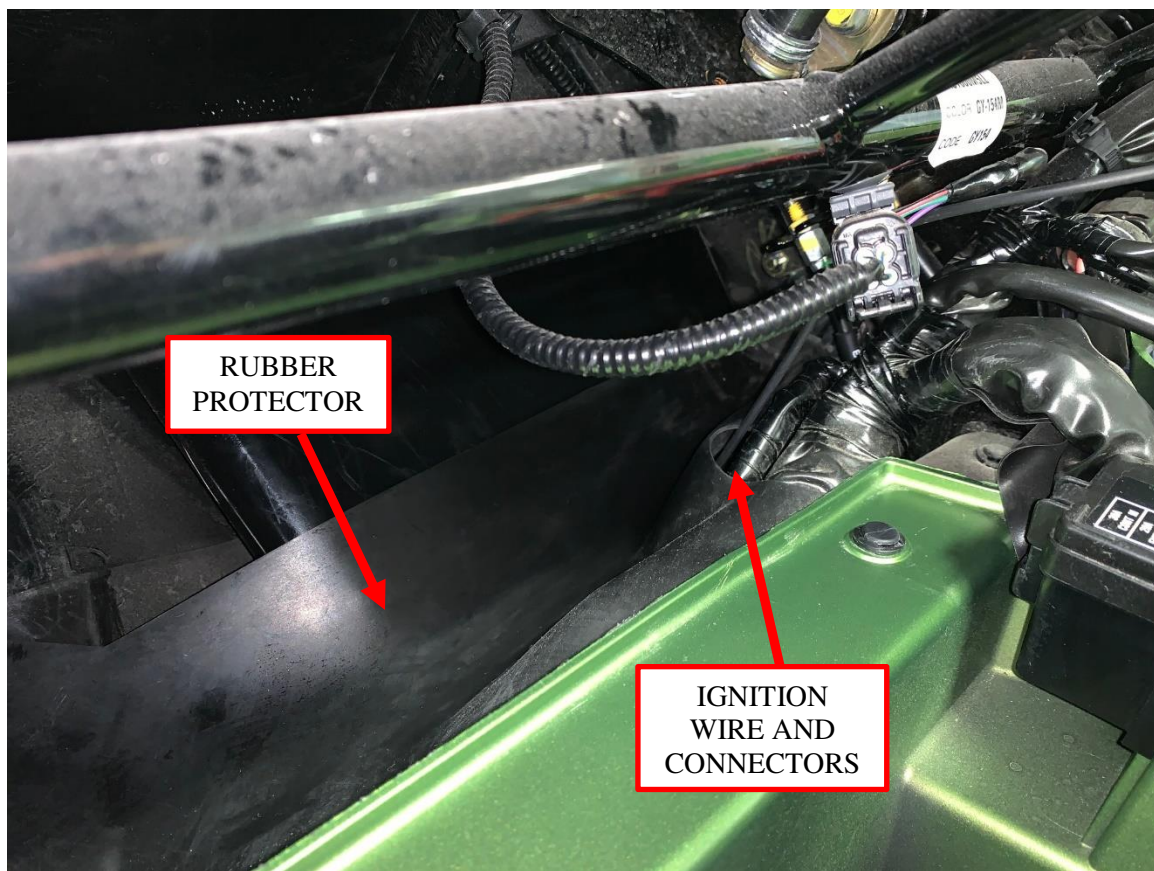
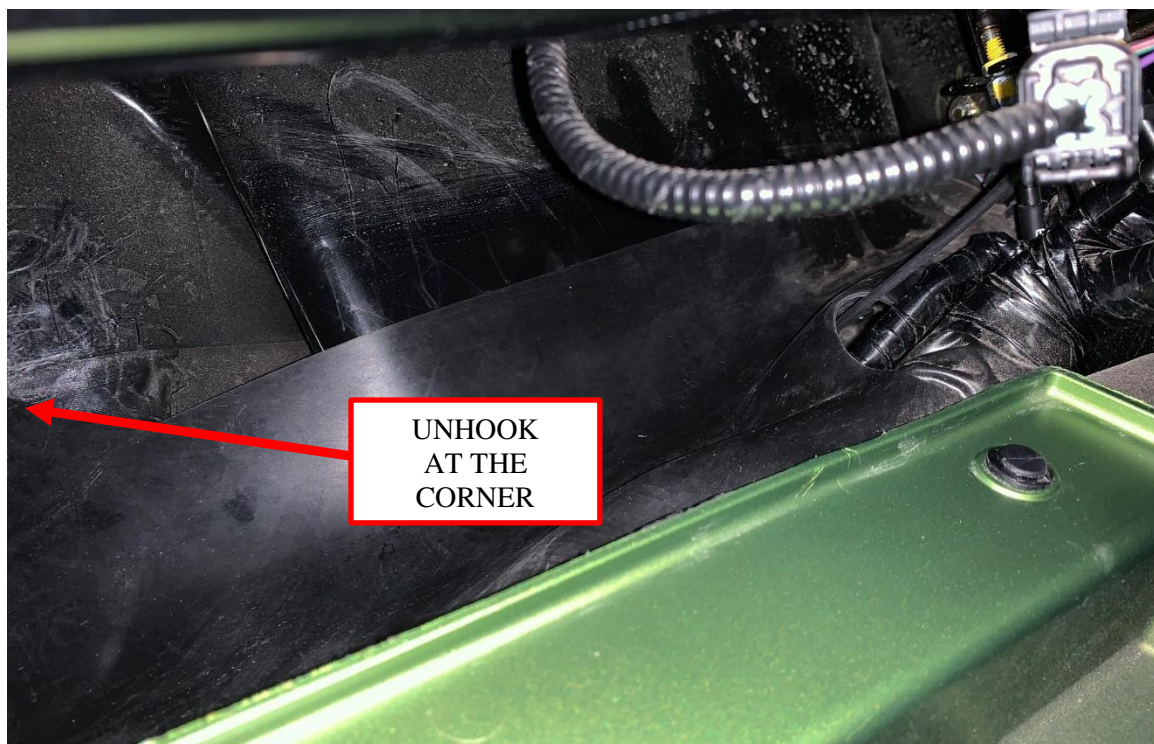

Figure 15: Ignition wire and connector routing.
Figure 16: Rubber protector access location.
13. Run the orange ignition wire, with the two attached connectors, through the hole in the rubber protector (with the factory wire harness). The connectors are accessible under the rubber protector by lifting the left rear corner of the rubber protector. See Figure 15 and Figure 16.